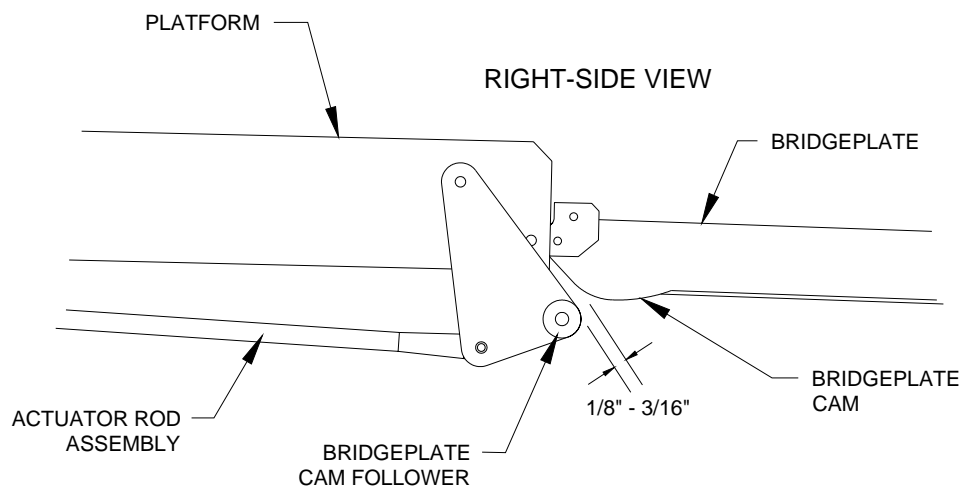

FIGURE 2-3: BRIDGEPLATE ADJUSTMENT
- h. Refer to **Figure 2-3**. Turn left-side rod-end to achieve a clearance of $1/8'' - 3/16''$ between bridgeplate cam and bridgeplate cam follower when shoulder bolt and spacer are installed. Tighten shoulder bolt, then tighten rod-end jam-nut.